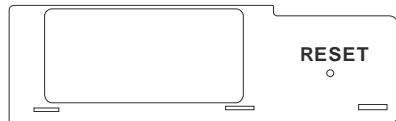

Figure 46
1. Press and hold, using a pointed object, the receiver's reset button until you hear two acoustic signals (see **Figure 46**).